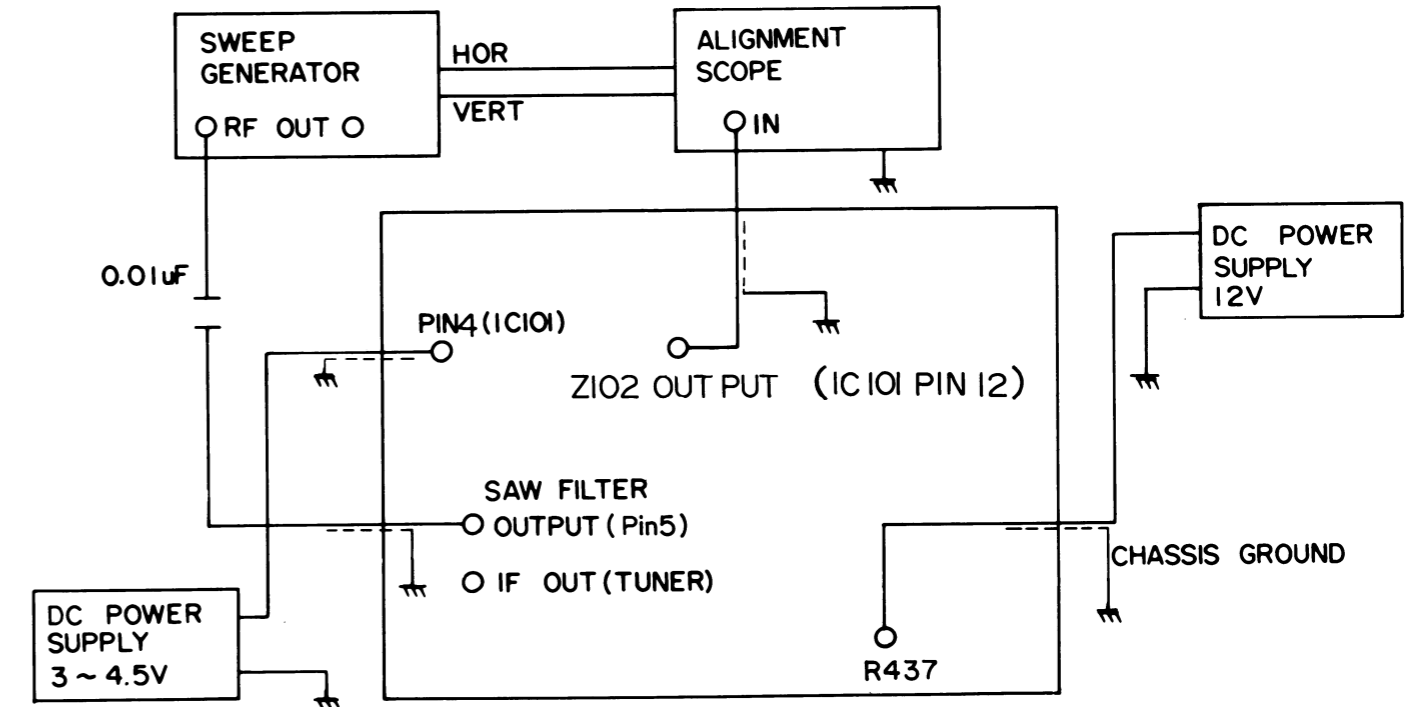

Figure 1
a) Do the connection as shown in figure 1 and then DC power suppliers on.
- b) The connection of alignment is the same as figure 1 but connect RF OUT of the SWEEP GENERATOR to TURNER IF OUTPUT terminal of Main PCB.